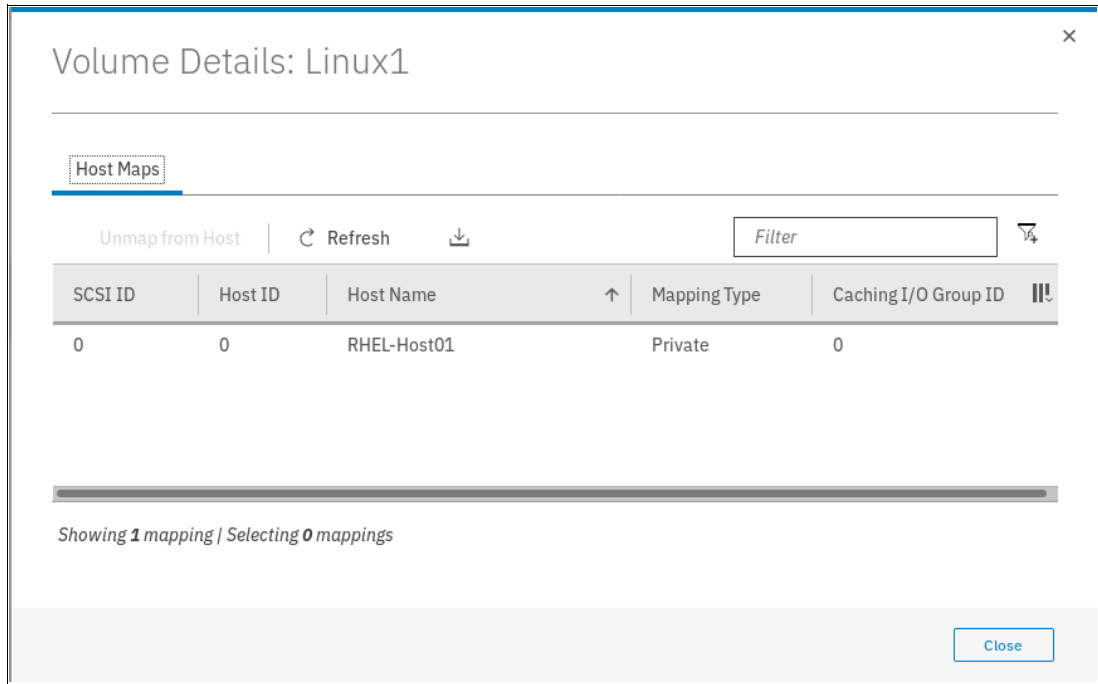

Figure 8-39 Volume to host mapping
1. Highlight a volume and select **View Mapped Host** from the Actions menu. The Host Maps tab of the Volume Details window opens, as shown in Figure 8-39 on page 411. In this example, host RHEL-Host01 is mapped to the Linux1 volume.